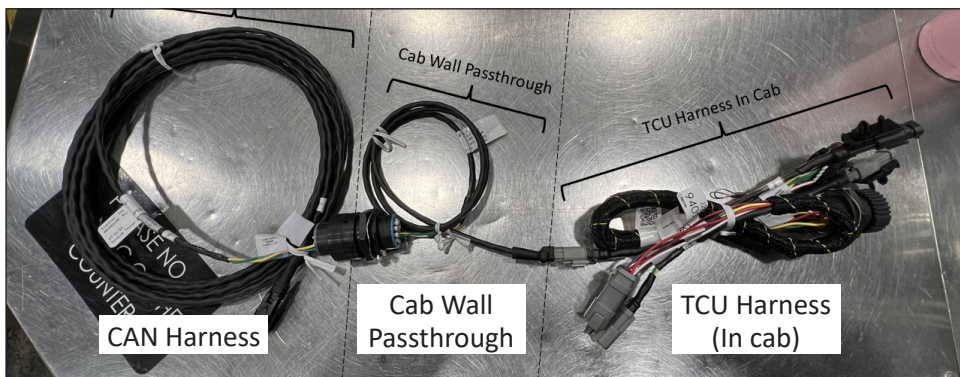

Figure 2 — Non-JEMS Wiring
3. Complete a visual inspection of the AXIS TCU wiring (refer to Figure 2). JEMS units only have one section of wiring while non-JEMS units have three sections.